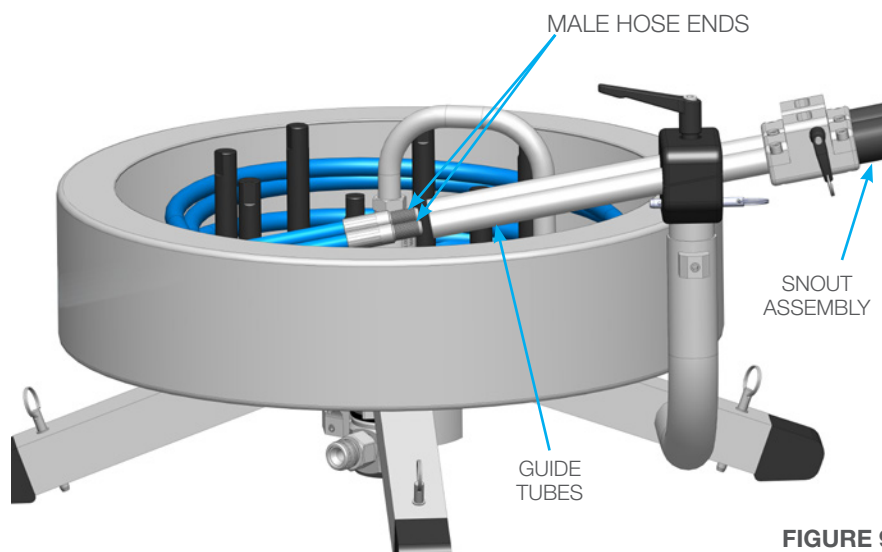

FIGURE 9
1. Feed the hoses into the Guide Tubes and the Snout. (**Figure 9**).